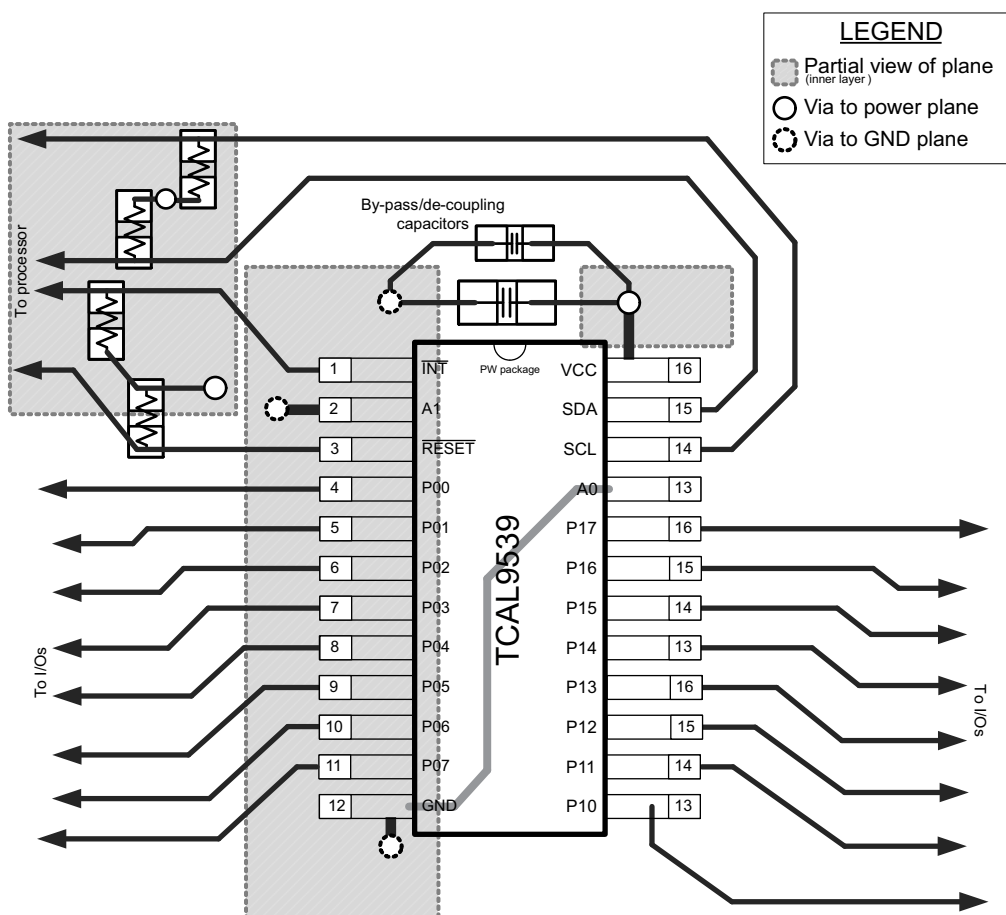

图 9-10. TCAL9539 Layout
In all PCB layouts, it is a best practice to avoid right angles in signal traces, to fan out signal traces away from each other upon leaving the vicinity of an integrated circuit (IC), and to use thicker trace widths to carry higher amounts of current that commonly pass through power and ground traces. By-pass and decoupling capacitors are commonly used to control the voltage on the supply pins, using a larger capacitor to provide additional power in the event of a short power supply glitch and a smaller capacitor to filter out high-frequency ripple. These capacitors should be placed as close to the TCAL9539 as possible. These best practices are shown in 图 9-10.
For the layout example provided in 图 9-10, it is possible to fabricate a PCB with only 2 layers by using the top layer for signal routing and the bottom layer as a split plane for power and ground (GND). However, a 4 layer board is preferable for boards with higher density signal routing. On a 4 layer PCB, it is common to route signals on the top and bottom layer, dedicate one internal layer to a ground plane, and dedicate the other internal layer to a power plane. In a board layout using planes or split planes for power and ground, vias are placed directly next to the surface mount component pad which needs to attach to power or GND and the via is connected electrically to the internal layer or the other side of the board. Vias are also used when a signal trace needs to be routed to the opposite side of the board, but this technique is not demonstrated in 图 9-10.